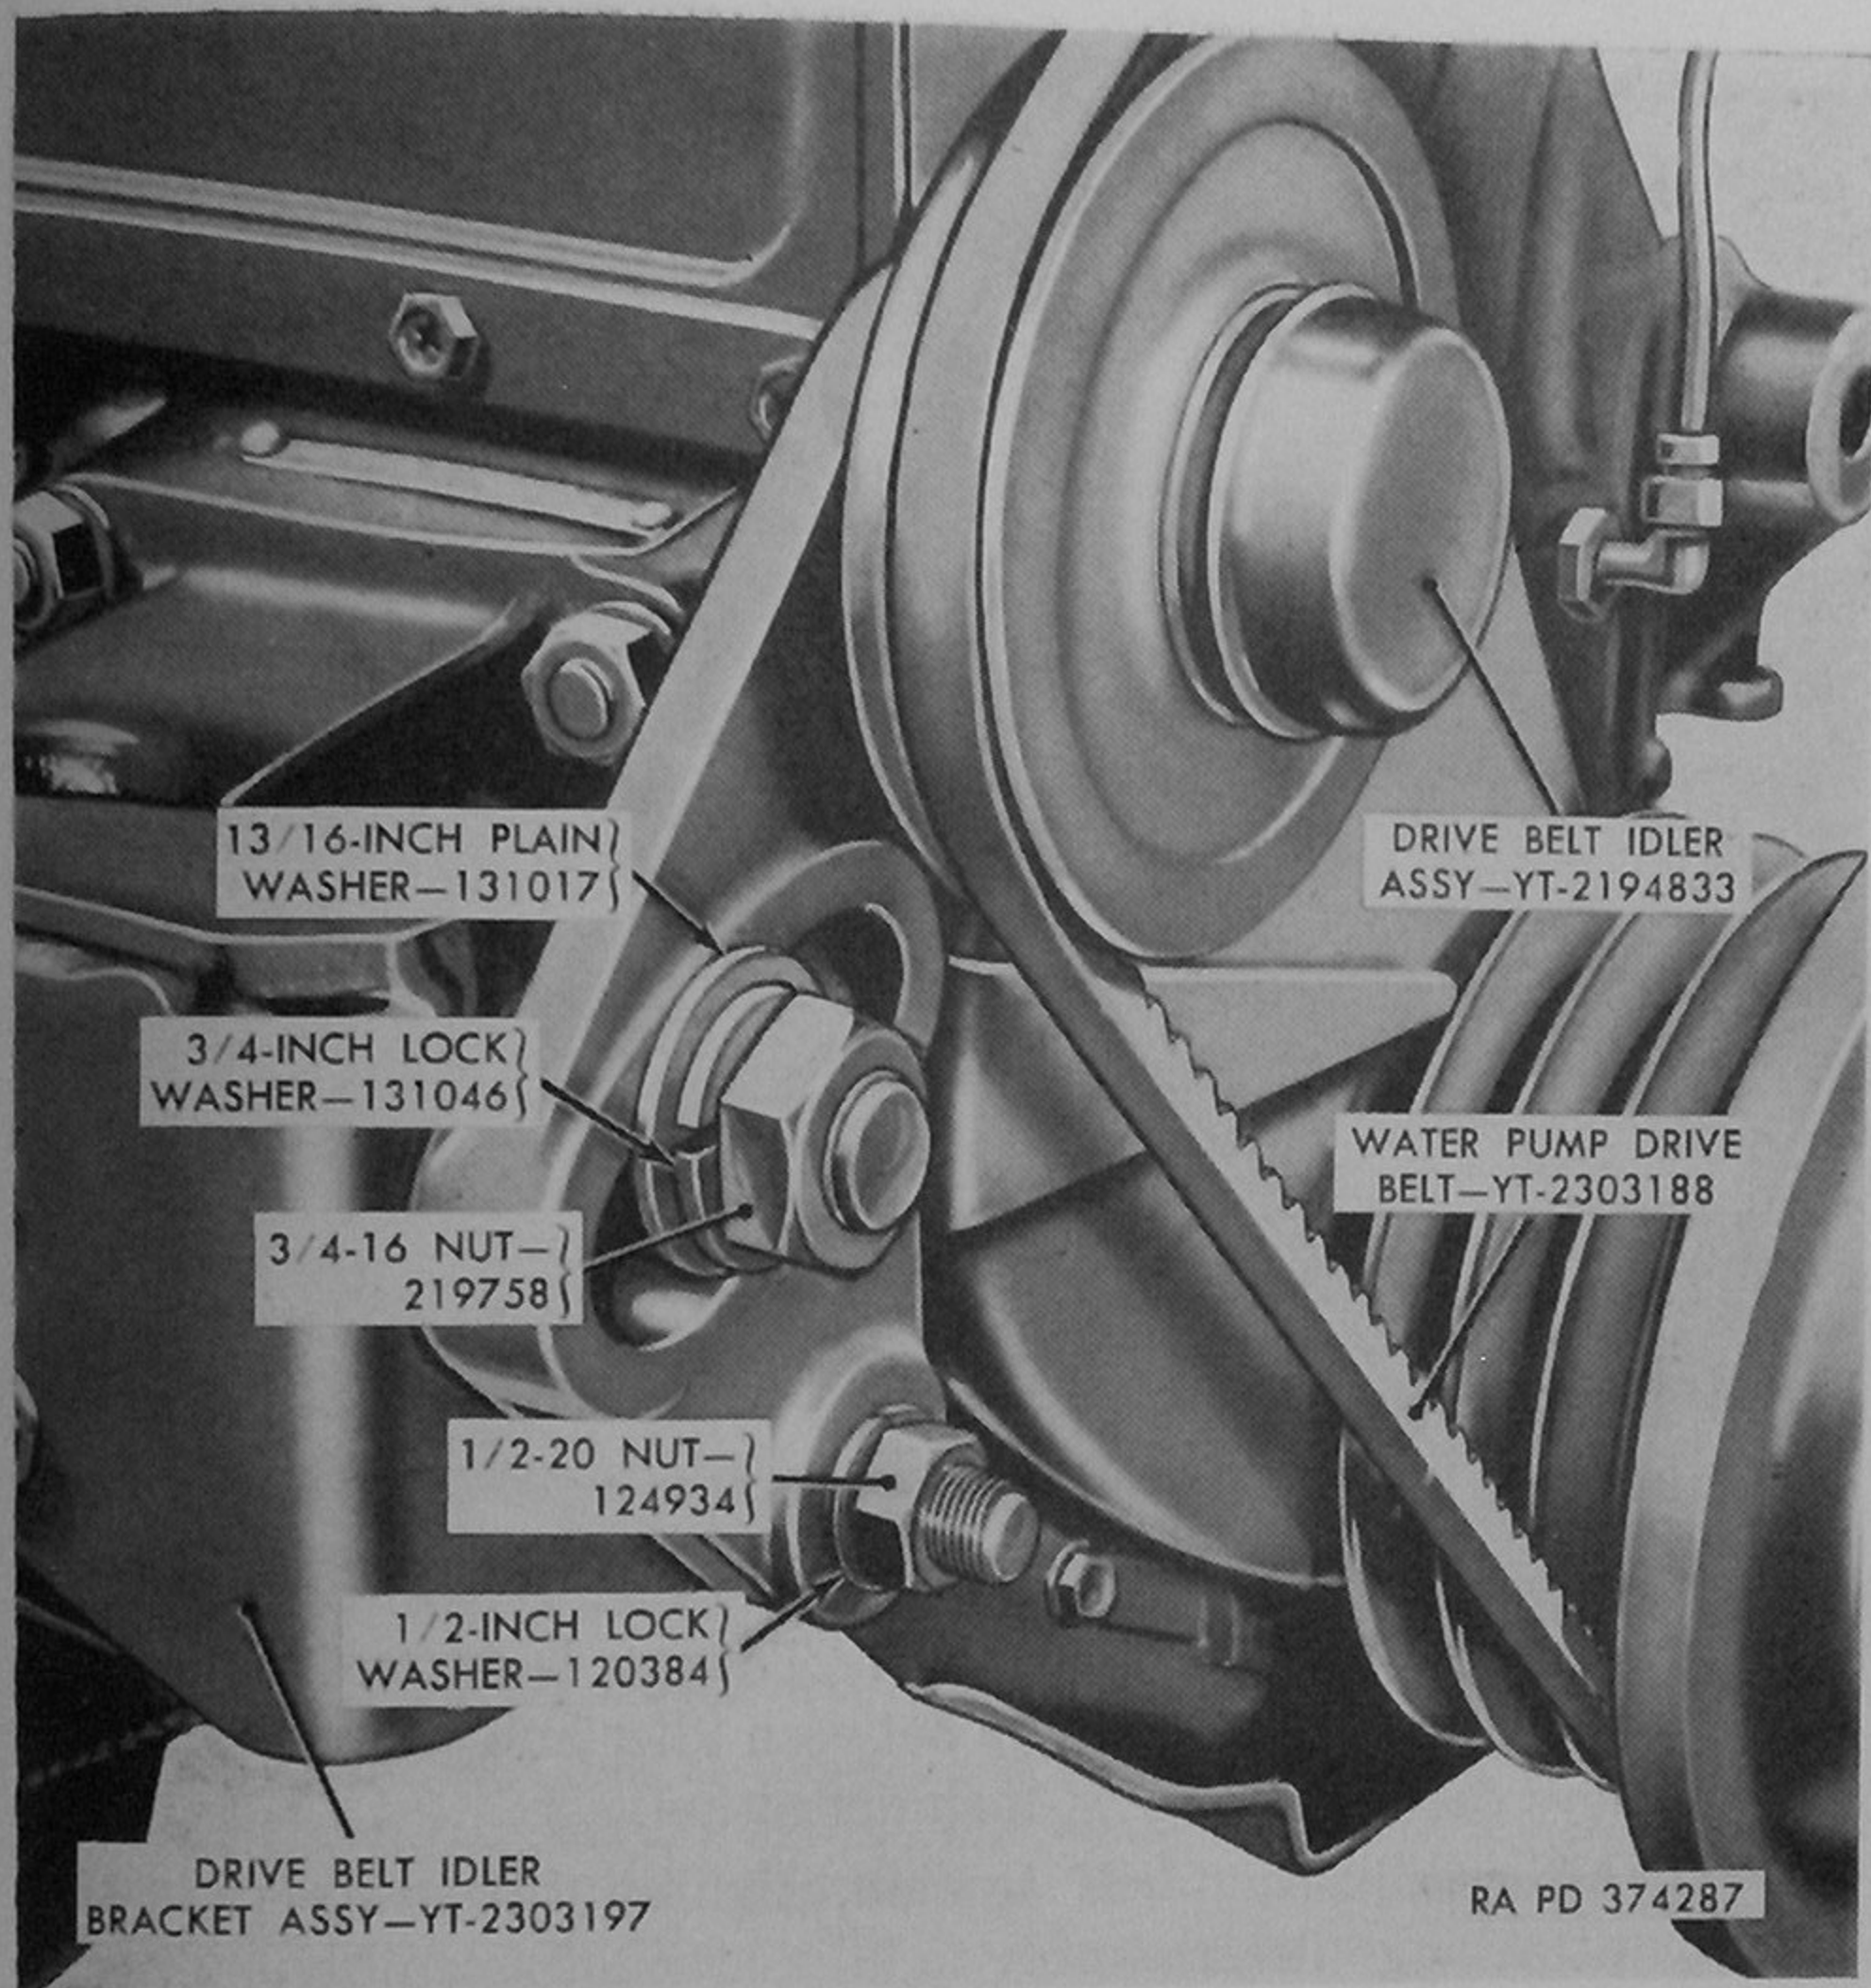

Figure 179. Drive belt idler pulley adjustment points—engine assembly 8329440.
b. Position water pump drive belt idler assembly (fig. 179) over studs on idler bracket assembly, then install  $\frac{13}{16}$ -inch plain washer,  $\frac{3}{4}$ -inch lockwasher, and  $\frac{3}{4}$ -16 nut (fig. 179) on idler bracket upper mounting stud. Install  $\frac{1}{2}$ -inch lockwasher and  $\frac{1}{2}$ -20 nut (fig. 179) on idler bracket lower mounting stud. Do not tighten nuts until after making water pump drive belt tension adjustment (par. 165b).
- (1) Place water pump drive belt (fig. 179) over pulleys. Adjust belt tension by moving drive belt idler assembly (fig. 179) as necessary to obtain correct tension. Check belt tension in
- (2) After adjusting belt tension, tighten two nuts (fig. 179) attaching idler assembly to idler bracket assembly. Tighten nuts firmly.